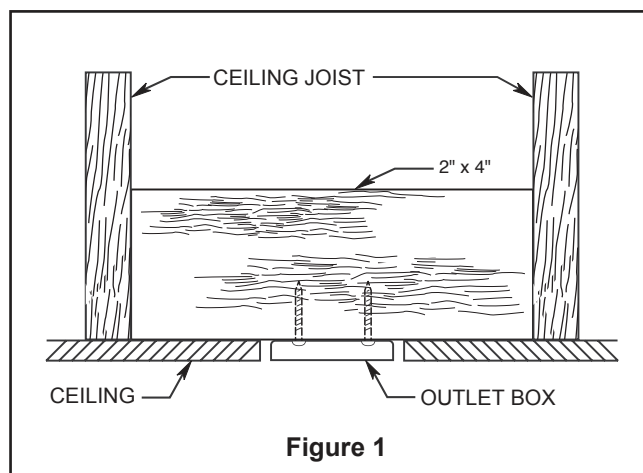
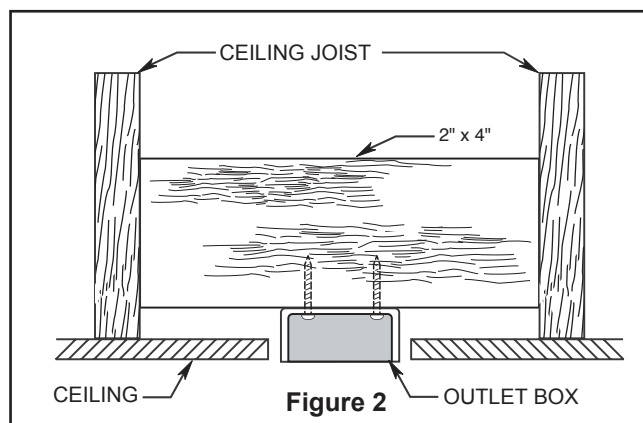
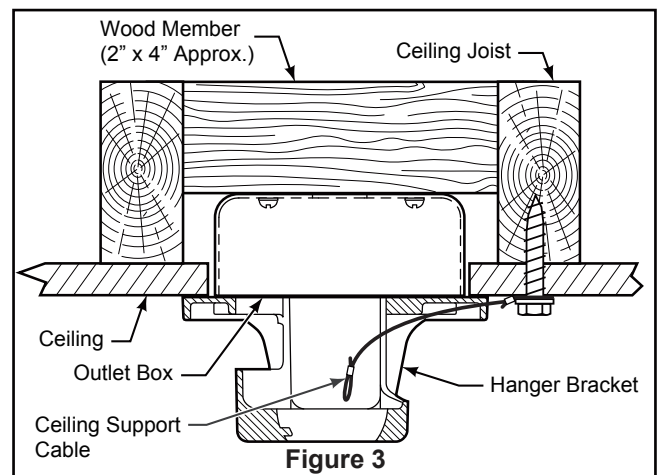

Figure 1
Figure 2
Figure 3
Your new ceiling fan will require a grounded electrical supply line of 120 volts AC, 60 HZ, 15 Amp Circuit. Electrical code requires use of a fan-rated outlet box to support the extra weight and motion associated with a ceiling fan. A fan-rated box will be labeled as such and typically supports up to a 70lb ceiling fan. Fan-Rated Outlet Boxes vary in ratings and design. Ensure the ratings of your ceiling fan outlet box meet the requirements for the ceiling fan being installed. Figure 1, Figure 2 and Figure 3 depicts different structural configurations that may be used for mounting the outlet box.
### Low profile box (Figure 1)
### Deep box (Figure 2)
### Deep box with brace (Figure 3)
3. Loosen the two set screws in the downrod support of the motor assembly. Route the brown, blue, red, gray, yellow wires and safety cable through the downrod. (Figure 3)
1. Securely attach the hanger bracket to the outlet box using the outlet box screws and washers supplied with the fan. (Figure 3)
2. Drill a 1/4" pilot hole into the building structure to prevent splitting or cracking with installation of the lag bolt. Using the 3/8" x 2" lag bolt and flat washer, attach safety cable to ceiling joist or wood structural member. The lag bolt will pass through the flat washer, safety cable loop, and into the building structure. (Figure 3)
**NOTE:** Ceiling support cable cannot be secured to outlet box only, it must be directly secured to ceiling joist or structural member using the 3/8" x 2" lag bolt and flat washer. (Figure 3)
- 2. Slide the receiver into the hanger bracket before wiring as shown in figure 3.
- 3. Remove the battery cover from remote control by screwdriver and retain the screw for later. (Figure 3)